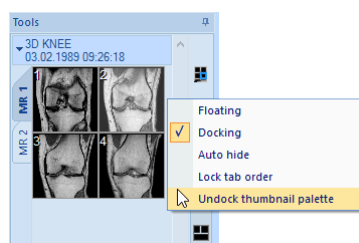

Figure 25 – Undocking thumbnail bar from the tools panel via context menu
2. Select the **Undock thumbnail** item in the context menu (see Figure 25).